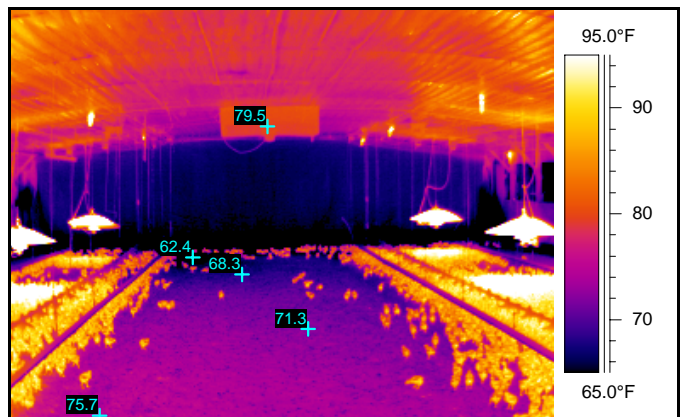

Figure 10. Effects of using plastic pipe instead of bird board.
- 1) Use bird boards that are two feet tall. Using shorter bird boards doesn't give the brooding curtain enough area to seal upon and leads to increased leakage (Figures 10, 11 and 12).